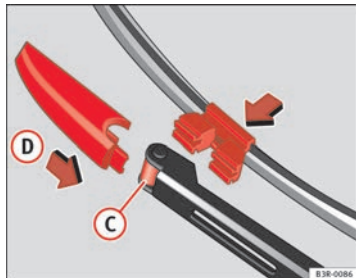

Fig. 182 Fitting the wiper blade
- Fit the new wiper blade into the mounting on the wiper arm ⇒ fig. 182 (C).
- Slide the retainer catch on the wiper blade in direction (D) so that it clicks into place on the wiper arm.